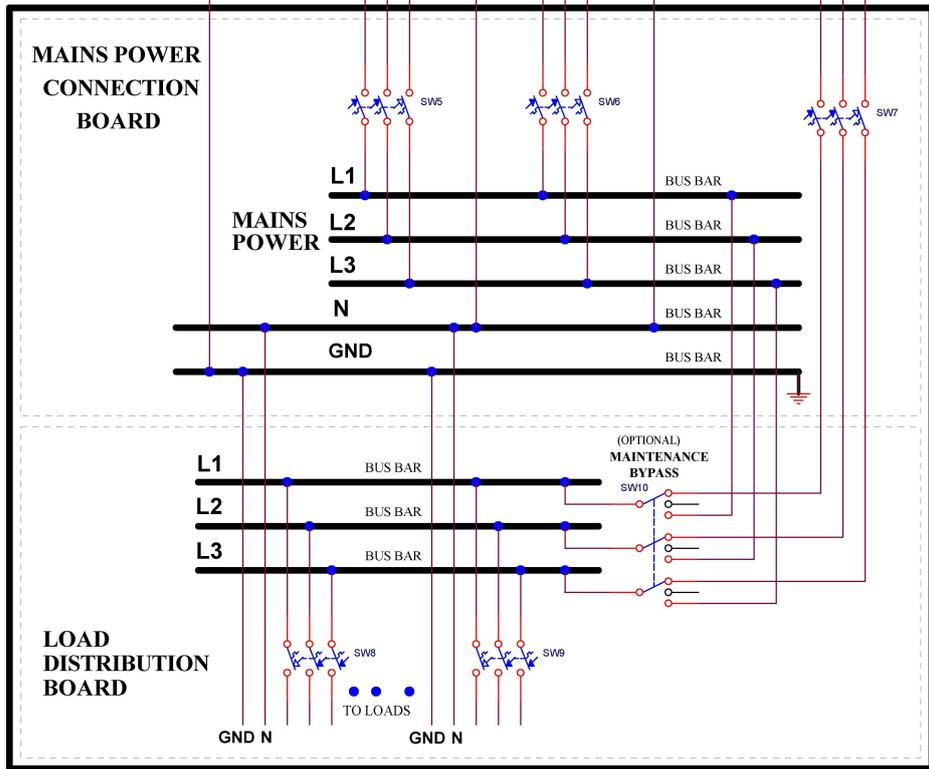
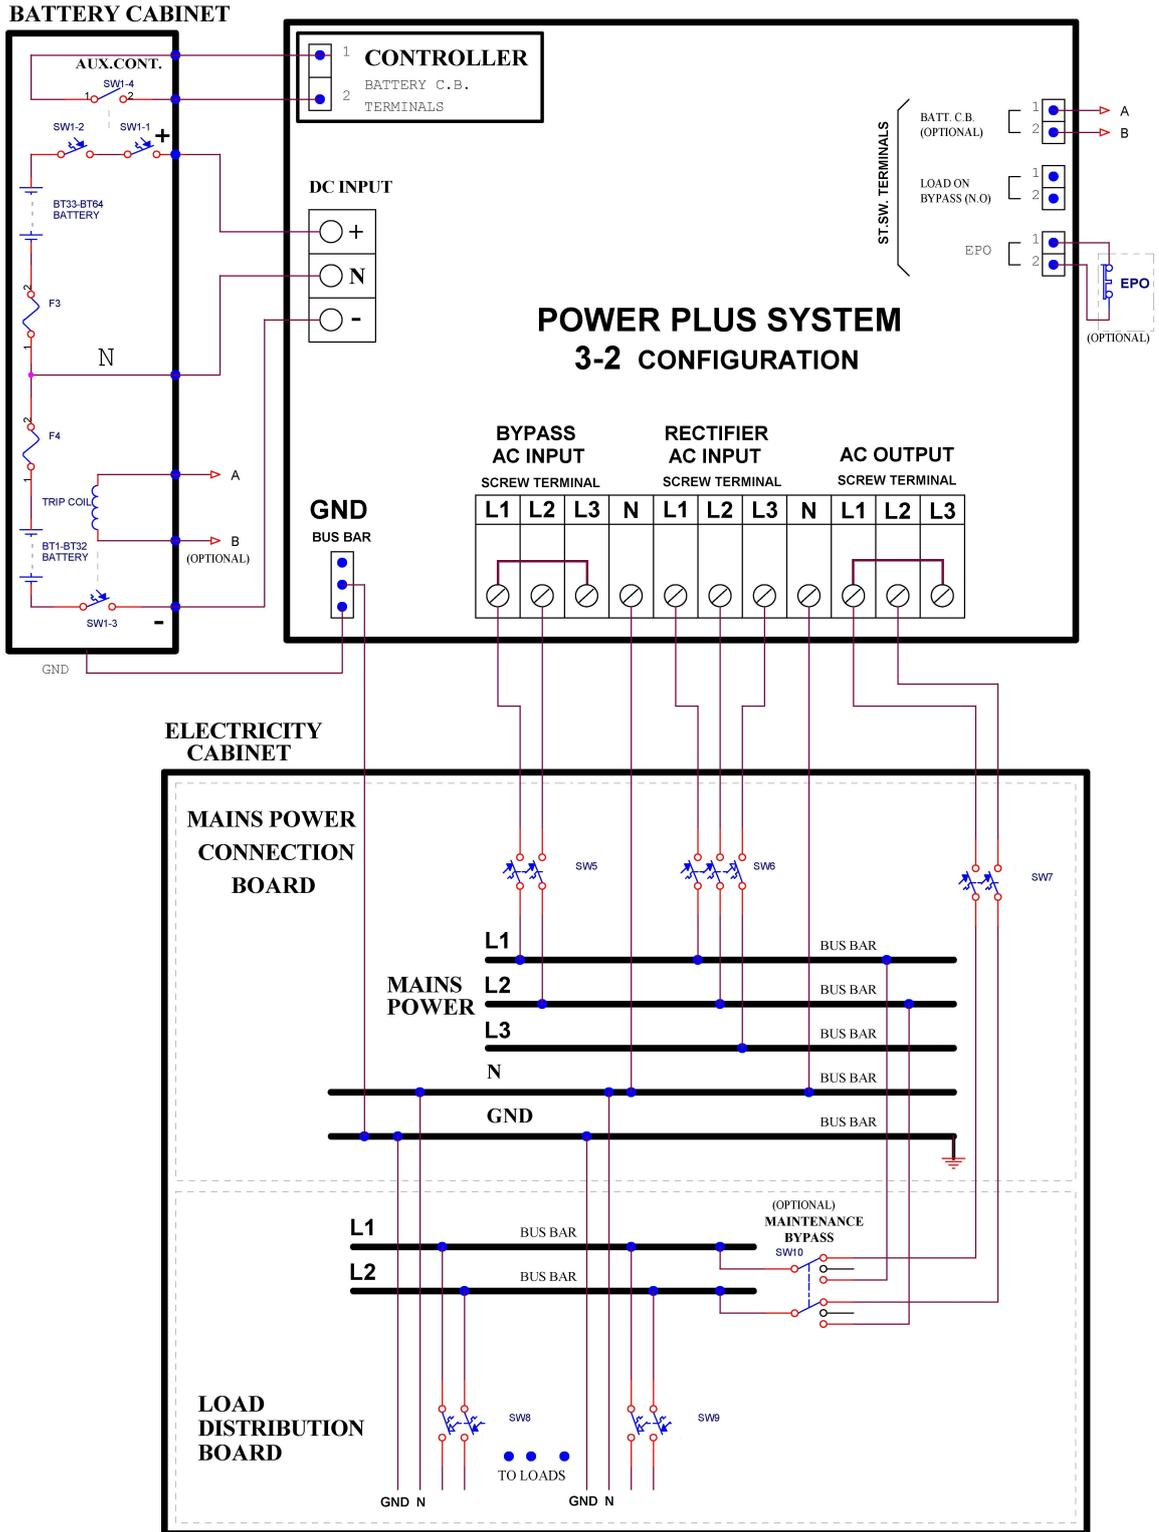
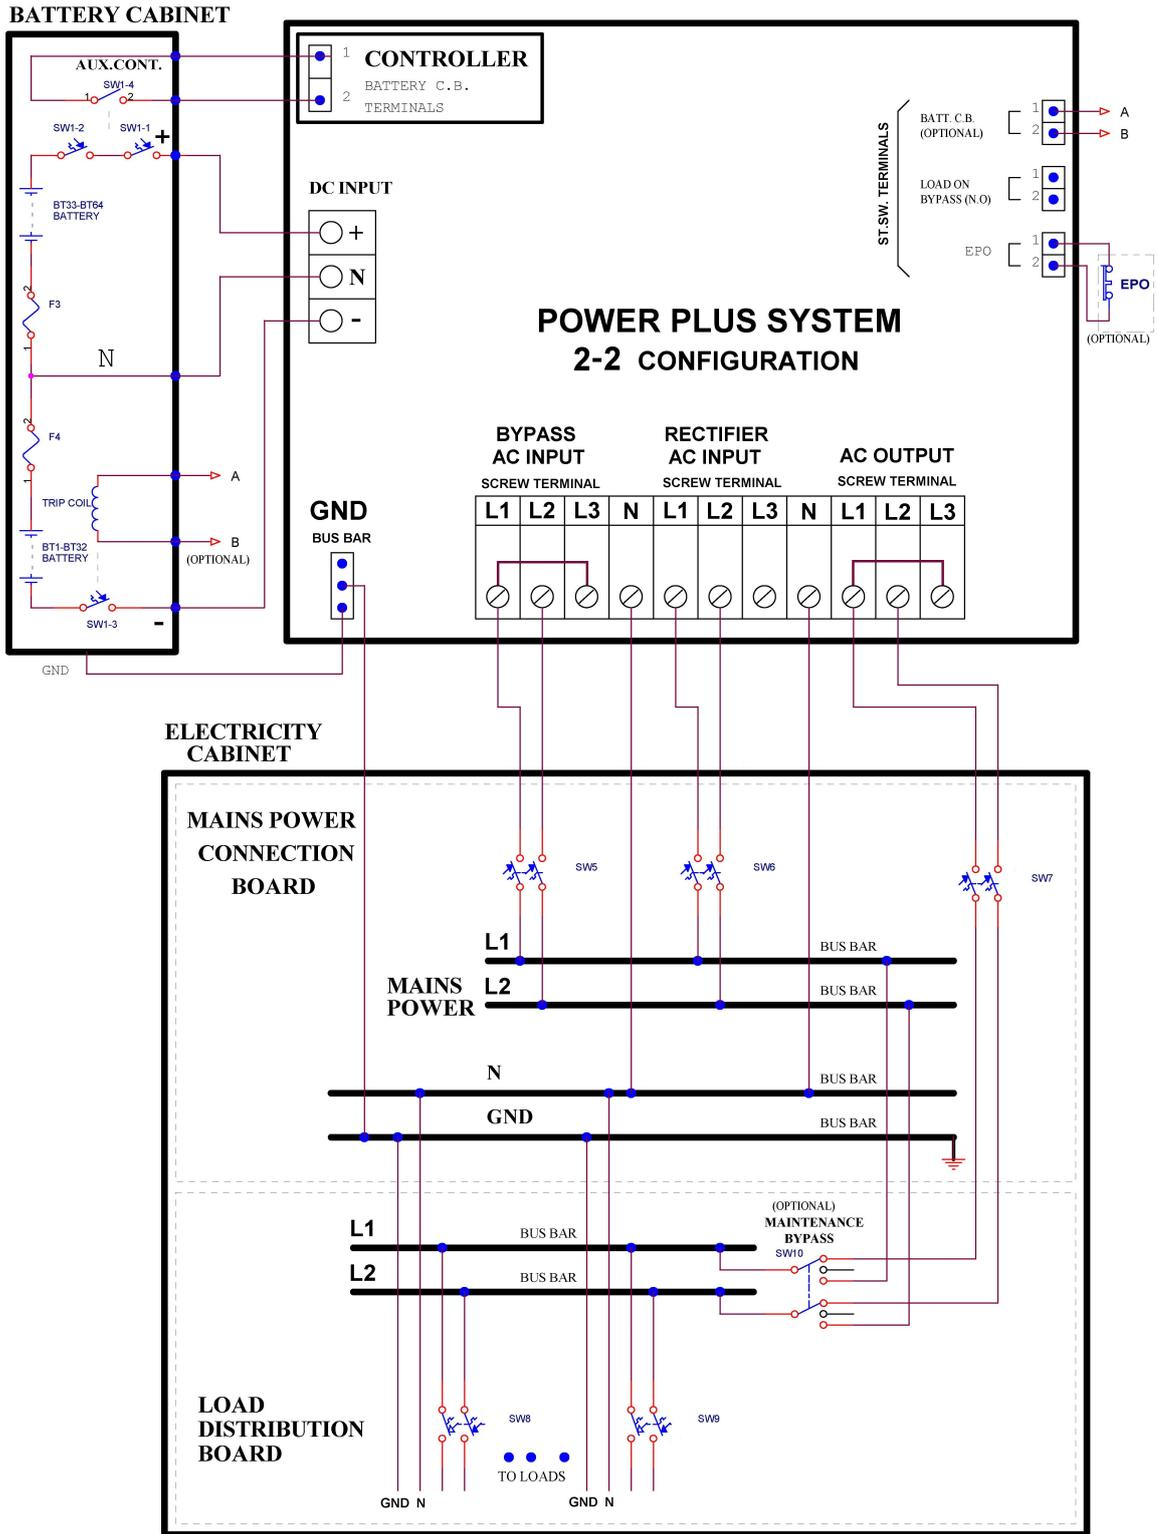

Figure 5-1: Connection diagram for 3-3 configuration
Figure 5-2: Connection diagram for 3-2 configuration
Figure 5-3: Connection diagram for 2-2 configuration
Figure 5-1 (3-3 configuration), Figure 5-2 (3-2 configuration), and Figure 5-3 (2-2 configuration) below illustrate the cabling of the POWER+ system to the mains electricity cabinet.
2.	Consult the appropriate connection diagram, depending on the phase configuration of the UPS: <ul style="list-style-type: none"><li>• For 3-3 configuration, see Figure 5-1 on page 25.</li><li>• For 3-2 configuration, see Figure 5-2 on page 27.</li><li>• For 2-2 configuration, see Figure 5-3 on page 29.</li></ul> Connect ground lines to busses according to markings as shown in the connection diagram. Verify secure connections.